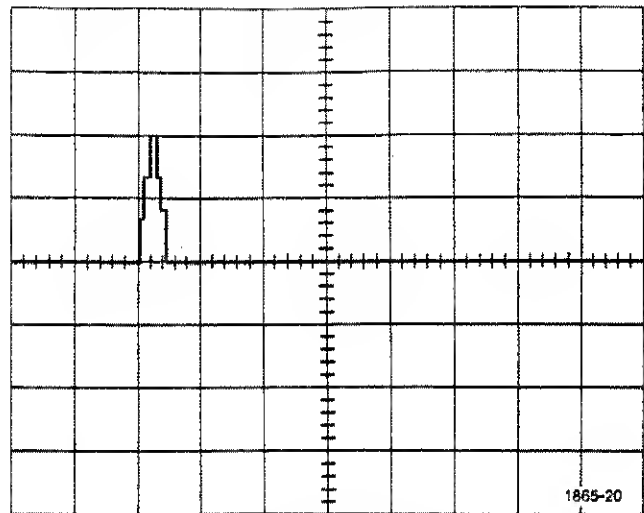

Fig. 4-2. Sampling Efficiency Pulse.
d. Press the 100 ns IMPLS WIDTH button and ADJUST R1693—SAMPLING EFFICIENCY—so the peak of the pulsing display does not rise above two graticule divisions (see Fig. 4-2).